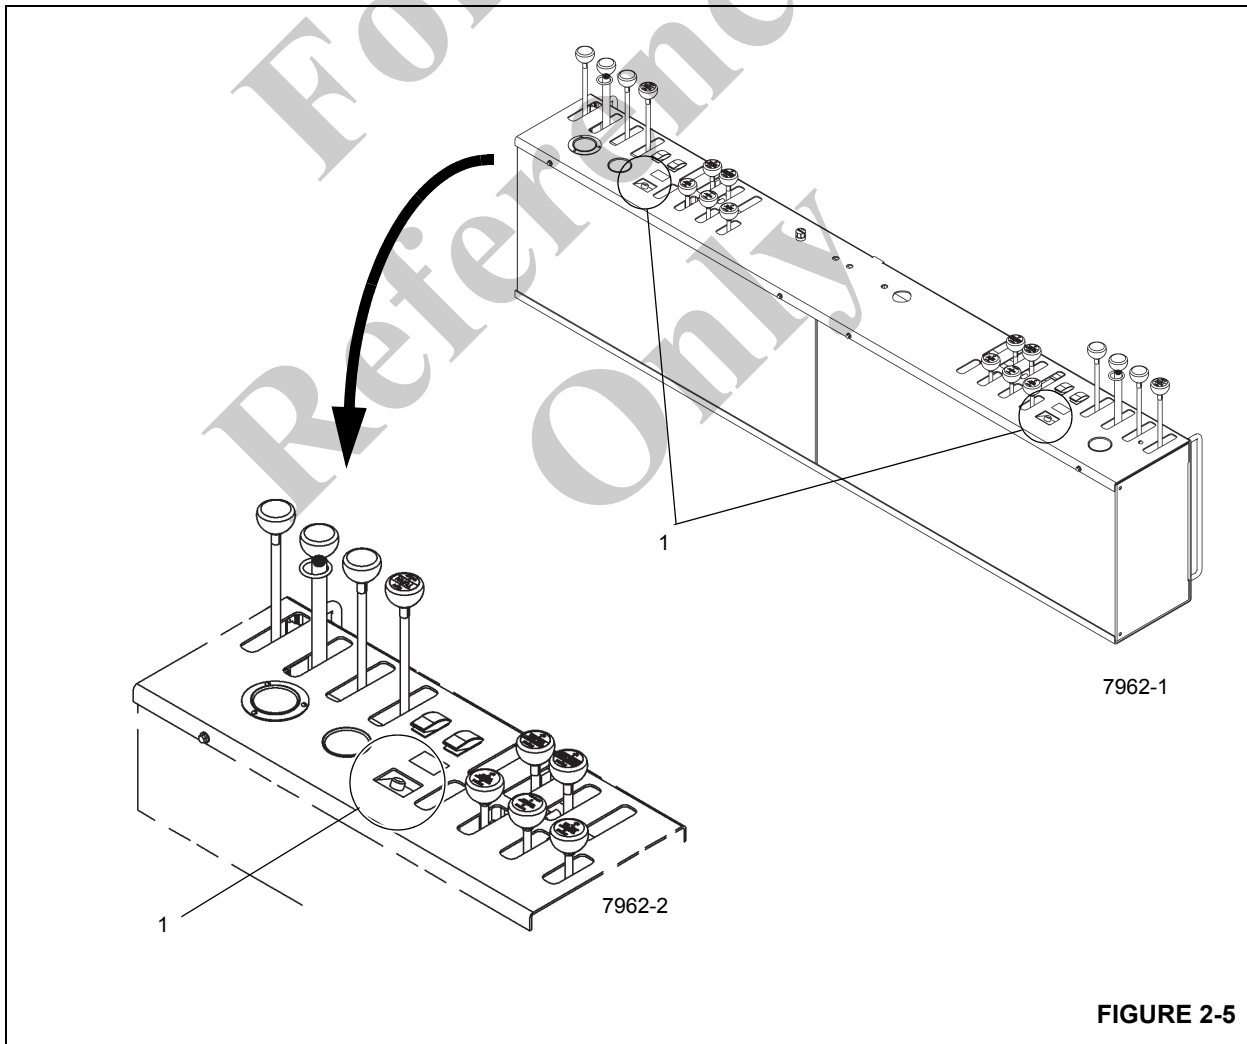

FIGURE 2-5
The OMS utilizes an LED indicator to communicate to the operator the position of the outriggers and stabilizers. The Outrigger Status Indicator (1, (Figure 2-5)) is a bi-color LED located at each control station. On older versions of the 800D, when power is on and the outrigger and stabilizer beams are extended to a point at which they provide maximum stability (stabilizers beams shall be fully extended
5. With power on, fully extend the outriggers. When active, the LED light (7) on the proximity switch illuminates constant yellow. Depending on how the vehicle is equipped, verify that the proximity switch output is working as follows:
- If equipped with Outrigger Monitoring (OMS) and HCA systems, make sure the outrigger status indicator on the operator's console (1, Figure 2-5)